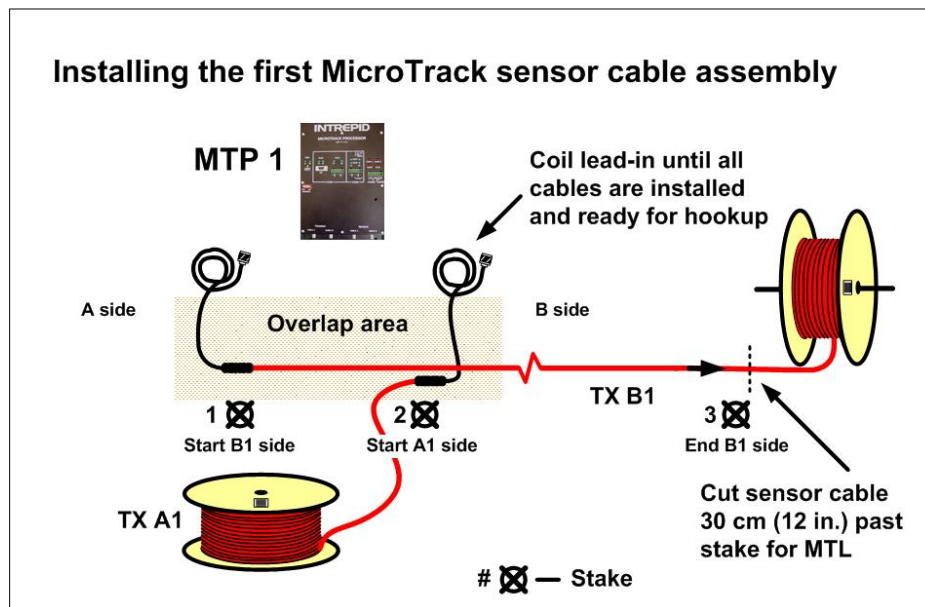

Figure 5.9 Installing the First Sensor Cable Assembly
2. Beside stake #2, the start of the A side sensor cable, spool-off the TX A lead-in cable and about 2 m (6 ft.) of sensor cable. Lay the sensor cable and the spool on the ground away from the startup overlap area, as shown in Figure 5.9. (Note that the figures below refer to TX A1, TX B1, etc., to denote the cables associated with MTP #1. The cables associated with MTP #2 will be referred to as TX A2, TX B2, etc.)
3. Position the lead-in/sensor cable junction at the beginning of the startup overlap area next to stake #2, as shown below in Figure 5.9.
7. Position the lead-in/sensor cable junction at the beginning of the startup overlap area next to stake #1, as shown below in Figure 5.9. Cover the lead-in cable and the sensor cable with soil for a distance of about 1 m (3 ft.) each side of the junction.